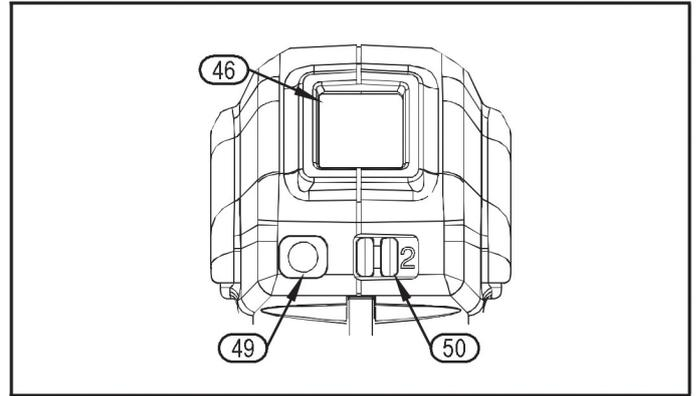

Figure 3 – LCD Display, Speed Selection and Reset Button
The gun is equipped with a two speed electronic transmission to provide a high and low flow rate, refer to Specifications for performance at each speed. The gun is in high speed when "2" is shown on the slide switch (50), see figure for illustration. Maximum pressure can be achieved in both High (2) and Low Speed (1). See **Figure 3**.
The Liquid Crystal Display (46) features an electronic grease meter, grease level gauge, and battery level indicator. To turn the LCD ON, tap the reset button (49) one time. See **Figure 3**.